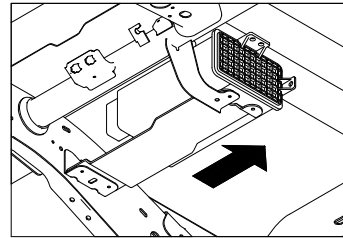
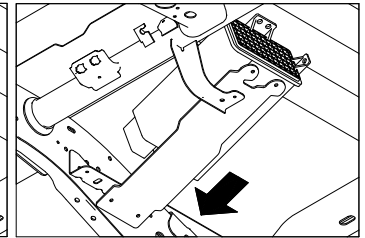

Figure A2: Looking up under the bed.
Figure A3
5. **Detach fuel valve canister, if needed.** Locate the rectangle shaped fuel valve canister. the canister will need to be lowered during the installation. First remove the three small bolts that hold the canister bracket to the truck using a 10mm wrench. Then slide the canister toward the center of the truck far enough to allow the end toward the frame to be pulled downward, see Figure A2. Then slide the canister back toward the frame to allow the complete canister to drop down about 4 to 5 inches providing space for installation, see Figure A3. The canister will be re-attached in a later step.